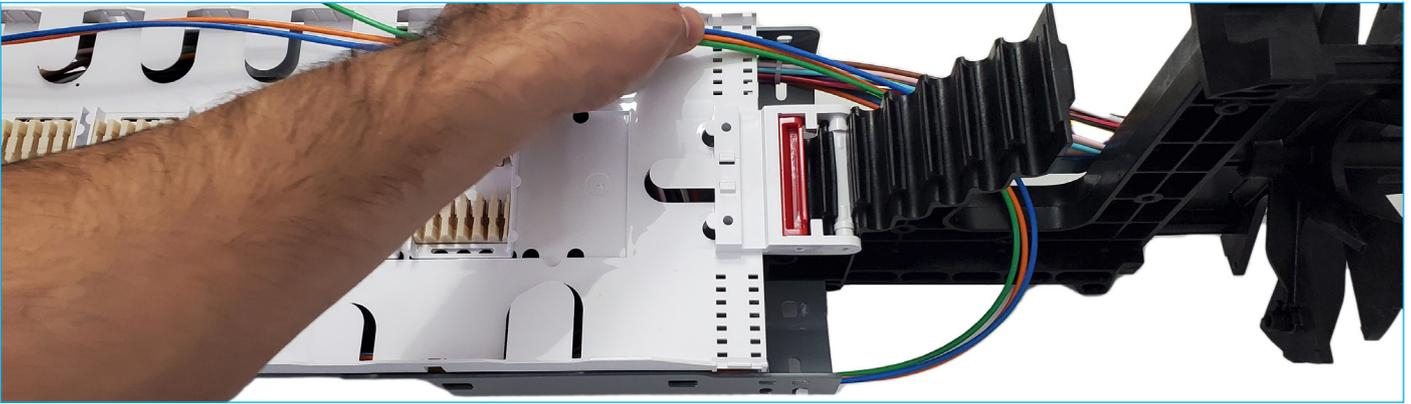

Figure 16
- 9.2 When routing subunits from basket to tray, go to opposite side of the basket and route around the backside of the tray tower (Figure 16).